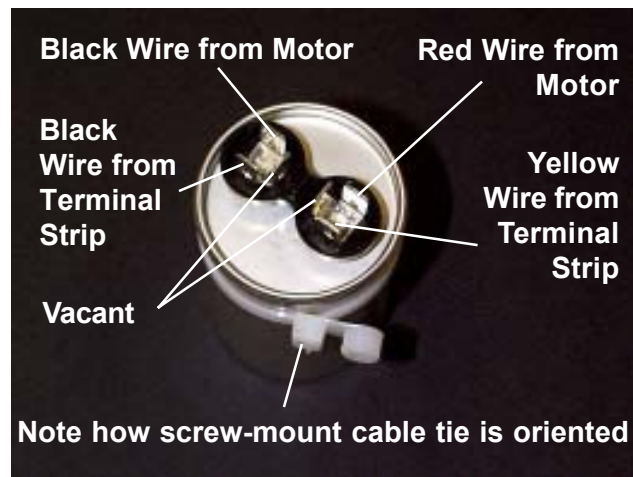

Figure 45. Capacitor Terminals
9. With a small, flat-blade screwdriver, pry off the spade connectors for the four wires (Figure 45) connected to the capacitor: